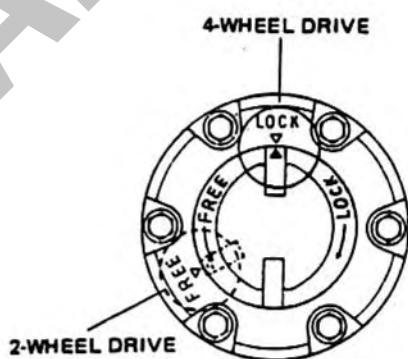

Figure 1:2
- 1.16 Vehicles can be fitted with free-wheeling hubs to reduce noise and wear, and improve fuel consumption. However, you must ensure that both hubs are locked in position before selecting 4WD. Free-wheeling hub selectors are located at the centre of the front wheels and have two distinct positions (Commonly marked LOCK and FREE). In the LOCK position, the axle is connected to the wheels by a dog clutch system enabling power to be delivered to the wheels when 4WD is selected. (See Figure 1:2).